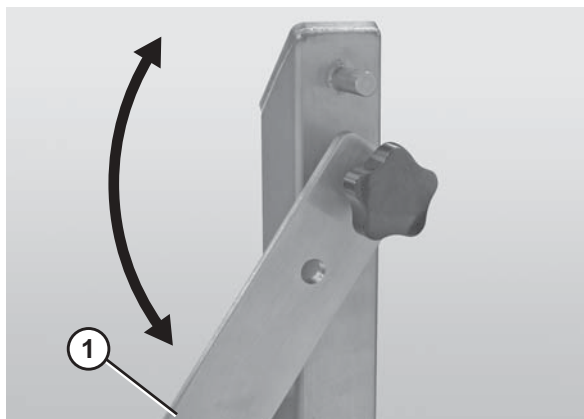

Figure 49
2. Lower the quick release arm (Figure 49, item 1) on one of the stands. *Note: if the conveyor is not equipped with Quick Release (QR Type) stands, it will be necessary to remove the entire stand.* For detailed instructions, refer to the “Sanitary Support Stands Installation, Maintenance and Parts Manual.”